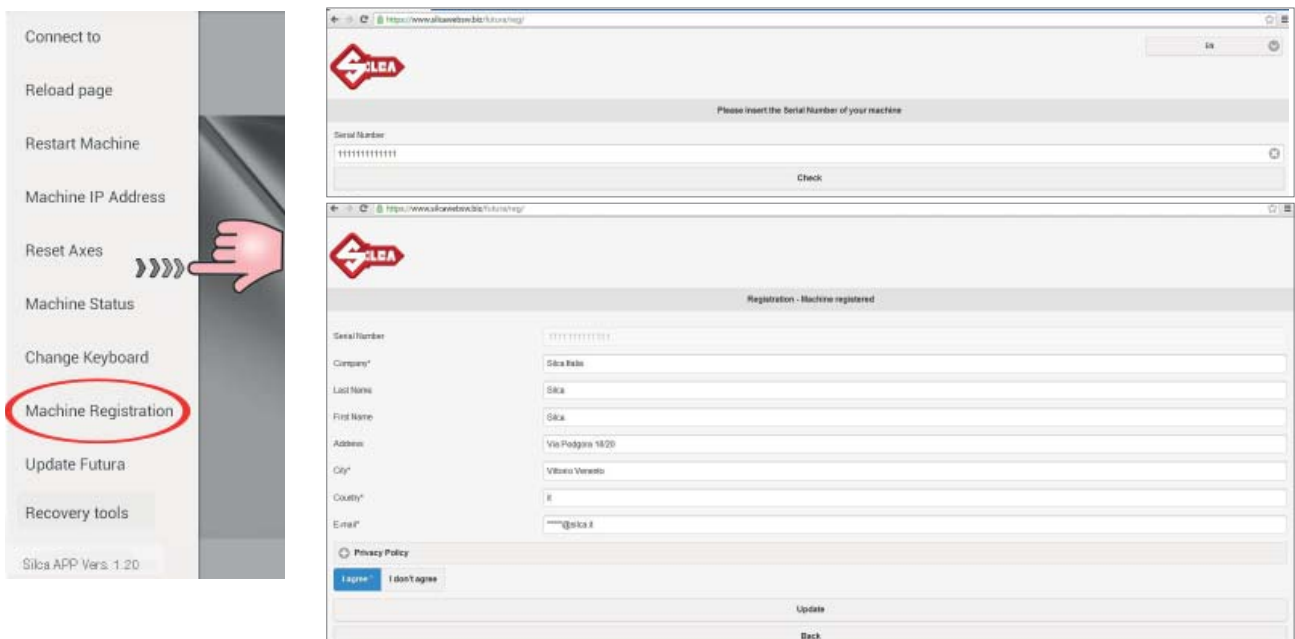

Fig. 11
- Tap “Machine registration” (Fig. 11).